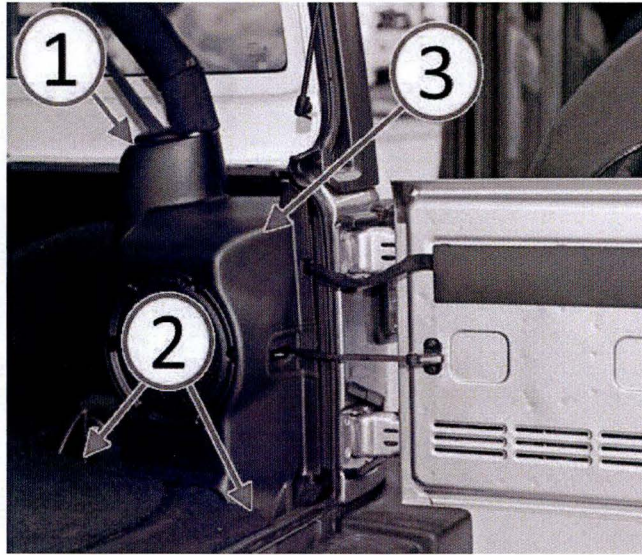

Fig. 5 Right Rear Quarter Trim Panel
- 7. Remove the right rear quarter trim panel (3). One fastener is located behind the trim bezel (1) and two fasteners are under the cargo floor covering at location (2) (Fig. 5). Refer to the detailed repair procedures available in: DealerConnect> TechCONNECT under: Service Info> 08 - Electrical> 8A - Audio/Video/Entertainment/Connectivity> SPEAKER> Removal> SUBWOOFER. Quarter trim panel without subwoofer requires a similar removal process but without speaker electrical connector.
10. Install the right rear quarter trim panel (Fig. 5). Refer to the detailed repair procedures available in: DealerConnect> TechCONNECT under: Service Info> 08 - Electrical> 8A - Audio/Video/Entertainment/Connectivity> SPEAKER> Installation> SUBWOOFER. Quarter trim panel without subwoofer requires a similar installation process but without speaker electrical connector.